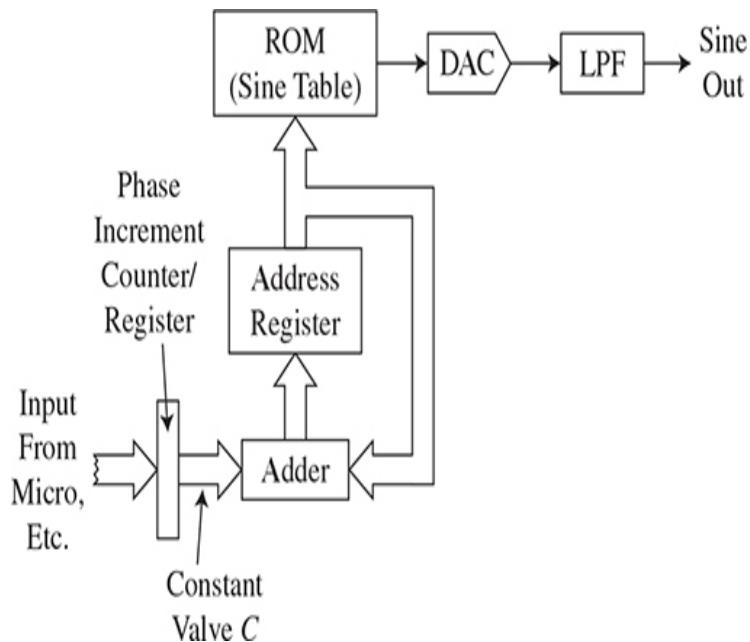

Figure 8.17 The concept of a direct digital synthesizer (DDS).
Conceptually, the DDS synthesizer is illustrated in Fig. 8.17. A read-only memory (ROM) is programmed with the binary representation of a sine wave. These binary values are fed to a digital-to-analog converter (DAC) that translates them into a stepped approximation of the sine wave. A low-pass filter (LPF) removes the harmonics and smoothes the output into a nearly perfect sine wave.
The most commonly used method to vary the synthesizer output frequency is to replace the address counter with a register whose content will be used as the ROM address but also one that can be readily changed. This register is used in conjunction with a binary adder, as shown in Fig. 8.17. The output of the address register is applied to the adder along with a constant binary input value (C). This constant value can also be changed. The output of the adder is fed back into the address register. This circuit is arranged so that upon the occurrence of each clock pulse, a constant C is added to the previous value of the register content, and the sum is restored in the address register. The constant value comes from the phase increment register, which in turn gets it from an embedded microcontroller or other source.